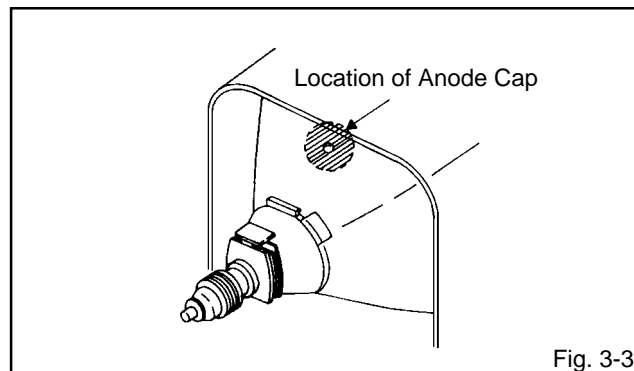

Fig. 3-3
1. Clean the spot where the cap was located with a small amount of alcohol. (Refer to Fig. 3-3.)